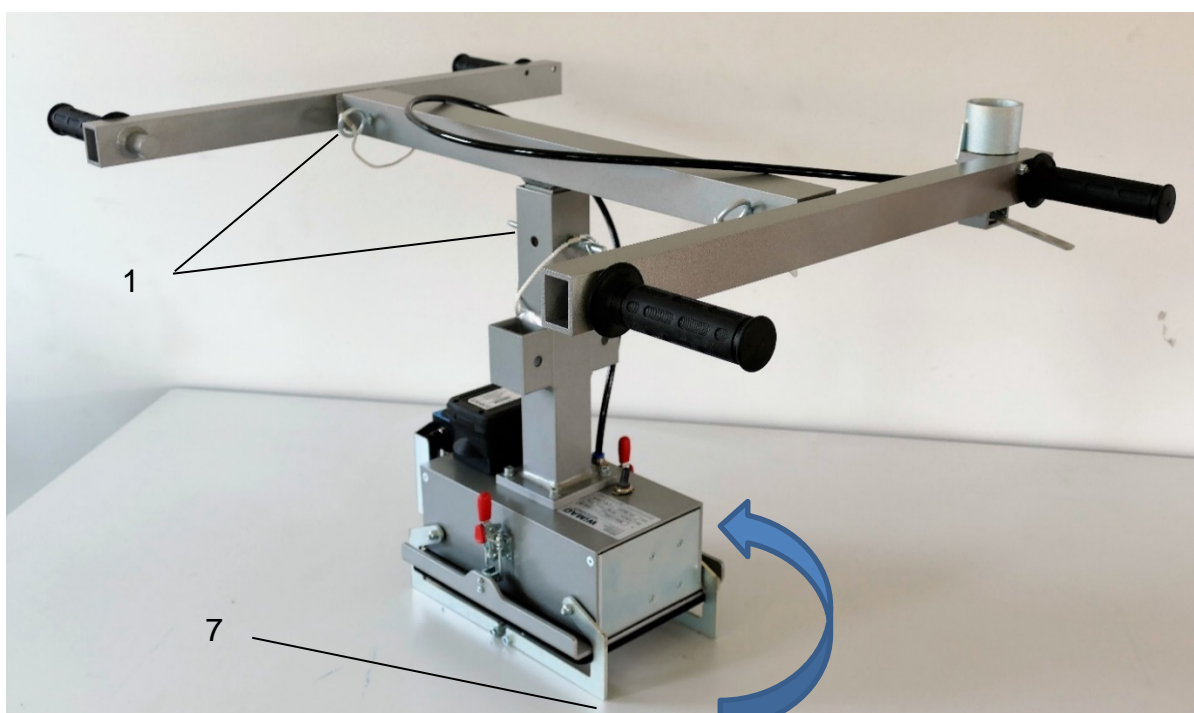

Fig.1
- Height and width can be adjusted via bolts (1). Secure bolts (Fig. 1).
- Swing resting feet (7) upwards (Fig. 1).